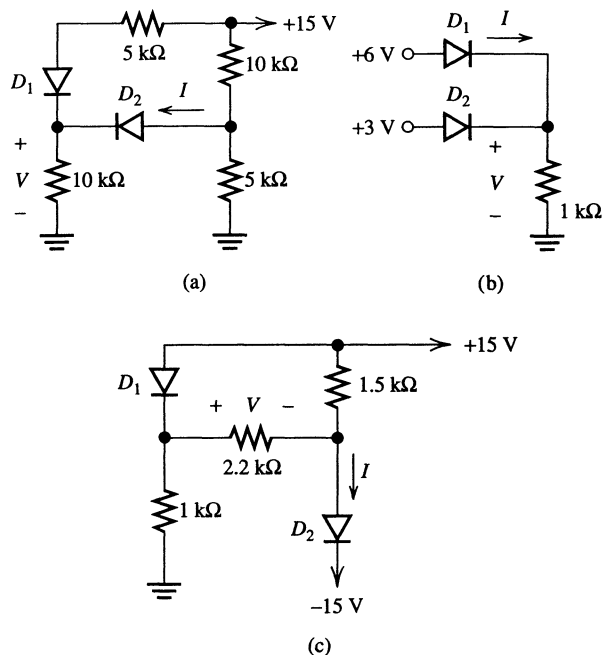

Figure P3.16
3.16. Assuming that the diodes are ideal, find the values of I and V for the circuits of Figure P3.16.